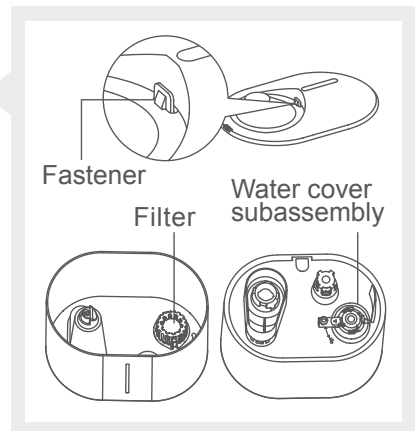

Figure 3
4. Lift up the water tank and remove the water cover subassembly by turning it counterclockwise (figure 3).